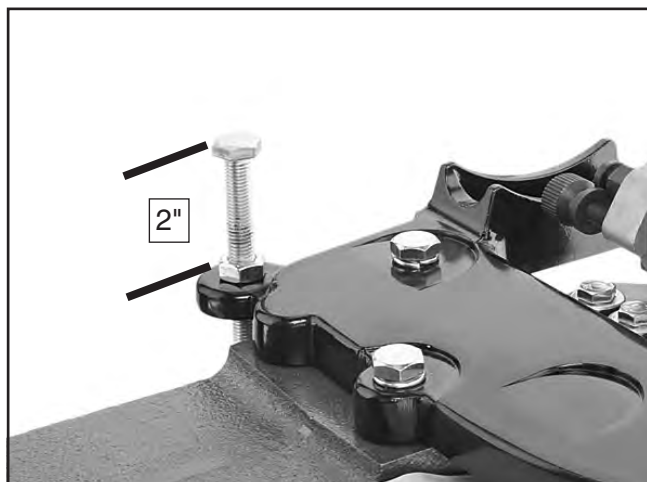

Figure 15. Positive stop installed.
10. Thread the remaining M8-1.25 hex nut onto the M8-1.25 x 80 positive stop hex bolt, then thread the bolt into the trunnion so that approximately 2" protrudes above the trunnion (see **Figure 15**). This will allow the table to rest approximately level when it is installed during the following steps.